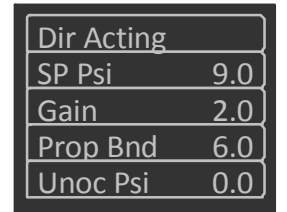

Figure 9: Selecting the Pneumatic Settings
3. Press the Up/Down buttons to select the **Dir Acting**, **SP Psi**, **Gain**, **Prop Bnd**, or **Unoc Psi** option (Figure 9).